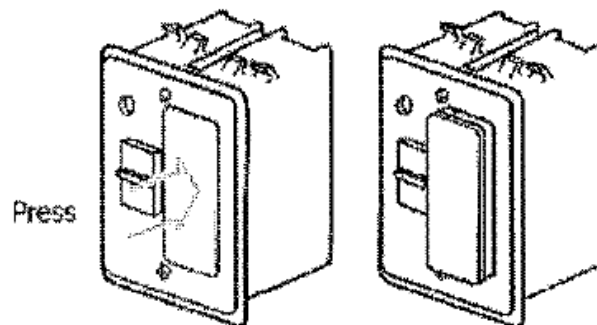

Figure 6
- 2) Press the battery compartment slightly and then release, compartment will pop out as shown in Figure 6.